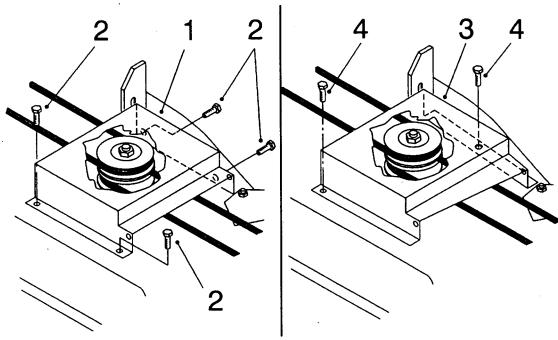

Figure 7
2. Install the **mower** belt cover (Fig. 7).
- a. **42" belt cover**—Mount the mower belt cover loosely on the outside of the belt-cover bracket and the top of the mower using four 1/4" x 1/2" thread-forming hex-head flange screws (Fig. 7). ***Do not tighten the screws*** because an adjustment must be made later.
- b. **48" mower belt cover**—Mount the mower belt cover loosely to the top of the mower, using two 1/4" x 1/2" thread-forming hex-head flange screws (Fig. 7). ***Do not tighten the screws*** because an adjustment must be made later.
4. Close the blower cover completely. While holding the blower cover down, tighten the mower belt-cover screws (Fig. 7).